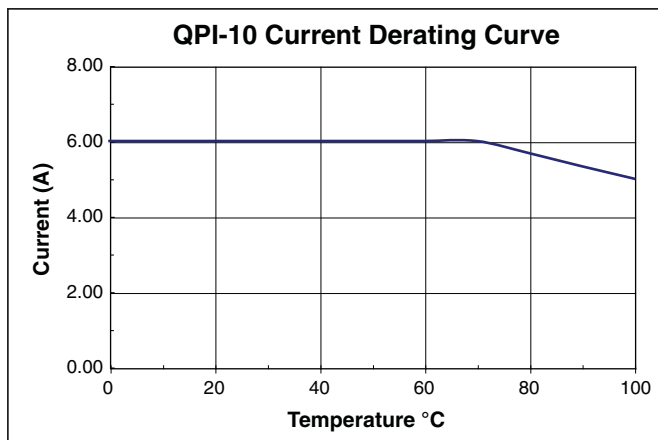

Figure 5 – QPI-10 current derating curve over temperature.
- -40° to +100°C PCB temperature (See Fig. 5)
**Note 3:** Refer to Figure 5 for current derating curve
The QPI-10's high-temperature rating of 6 A provides filtering for up to 288 W of power from a 48 V bus with a 70°C PCB temperature. It is well suited for the 200 W per board limit in the PICMG® 3.0. The 1.0" x 1.0" x 0.2" surface mount LGA package provides ease of manufacturing by eliminating through-hole assembly. The current derating curve, shown in Figure 5, should be used when the PCB temperature that the QPI-10 is mounted to exceeds 70°C.